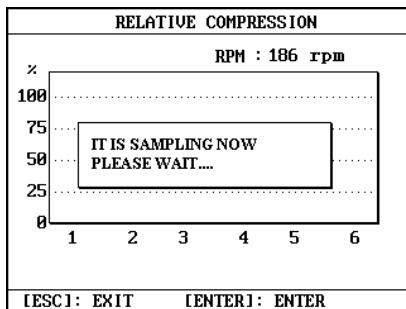
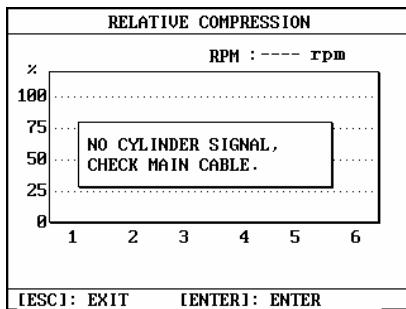

Fig.7-52
Fig.7-53
- ◆ After the engine is started, the screen will be displayed as shown in Fig.7-52. KES-200 is collecting data now. If the cylinder 1 signal cable is not connected properly, the screen as shown in Fig.7-53 will be displayed. Connect the cylinder 1 signal cable properly and test again.
- ◆ If the engine cannot be started after 50 seconds, the screen will be displayed as shown in Fig.7-53. In this case, you must press [ESC] key to exit, and then re-enter and try the test again.